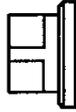

**Figure A-2**
**Reassembly:** Before you begin reassembly of the watermaker, clean all parts using clean, lint-free rags. At this time, all parts should be carefully inspected for wear or damage. Use a 10x magnifier or loupe to examine the seals, o-rings and other small parts. Stubborn rust stains and deposits on metal parts may be cleaned with a soft-metal wirebrush (e.g., stainless steel or brass). Do *not* use polishes, cleaning compounds containing abrasive materials, or regular steel wire brushes. Refer to the exploded drawing of the pump in **Figure A-2** in the *Appendix* for the location of parts and seals during reassembly. Refer to **Figures A-3** and **A-4** in the *Appendix* for full-size drawings and identification of the components included in the **Repair Seal Kit**. In the following procedure, references to the **Repair Seal Kit** will be abbreviated to "RSK." It will be assumed that all o-rings, seals, and mating surfaces have been lightly lubricated with non-petroleum silicon grease (supplied with the RSK).